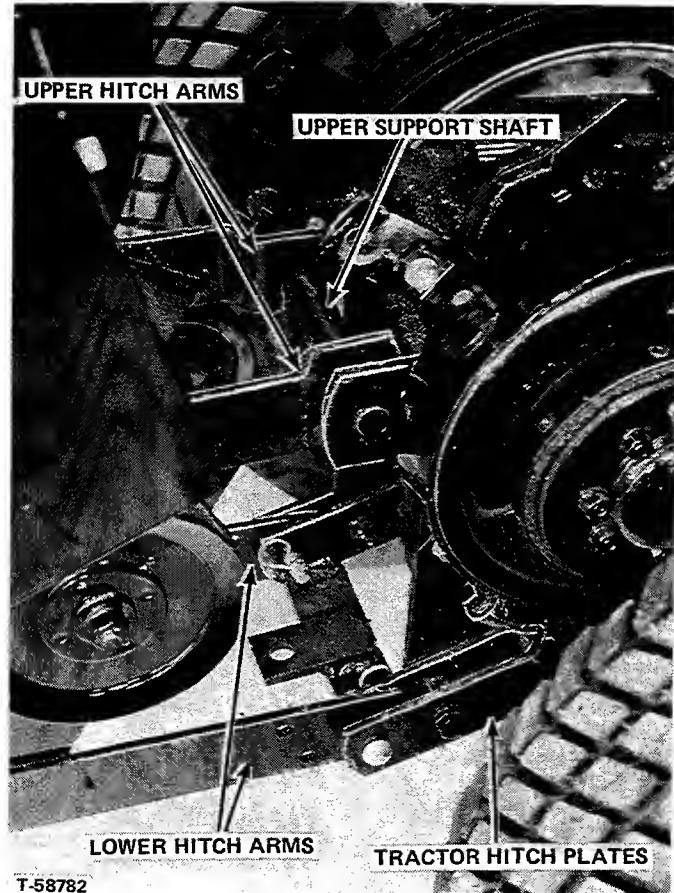
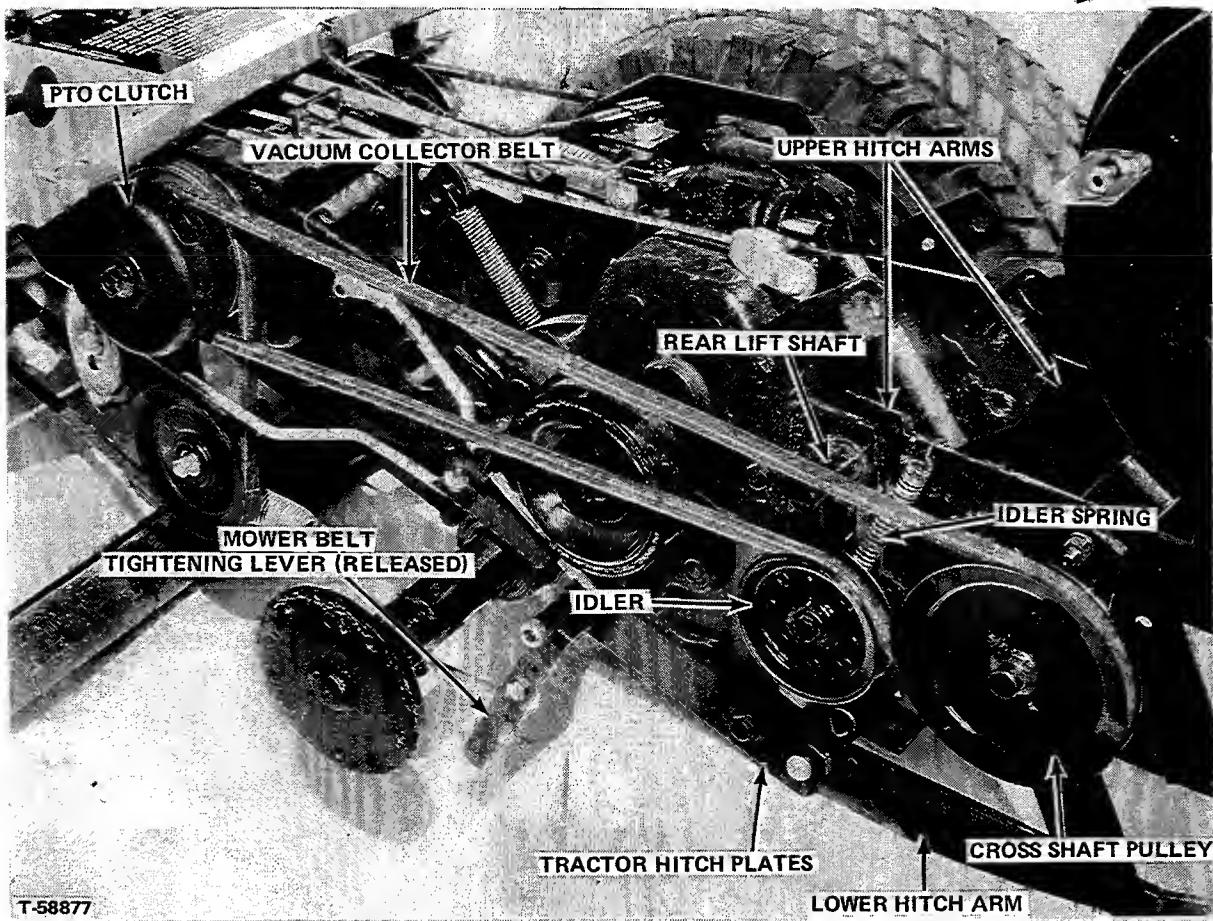

FIGURE 11
FIGURE 12 - (Seat Deck and L.H. Wheel Removed for Visibility)
3. Lift vacuum collector assembly up to rear end of tractor and hook the notches in the upper hitch arms over the upper support shaft (Figure 11) or the rear lift attachment shaft if tractor is so equipped (Figure 12). Swing the lower hitch arms between the tractor hitch plates and attach them to rear hitch holes with pins and lock pins.
4. Install vacuum collector belt over the L.H. side of the P.T.O. clutch into the L.H. belt groove. Place other end of belt over the idler and around the cross shaft pulley as shown in Figure 12. Hook idler spring over the L.H. upper hitch arm.
NOTE: If the roving nozzle is to be used first after installing the vacuum collector the mower drive belt should be removed before installing the vacuum collector belt or the mower belt tightener lever should be released by lowering it to position shown in Figure 12 to prevent mower from running while roving nozzle is used.